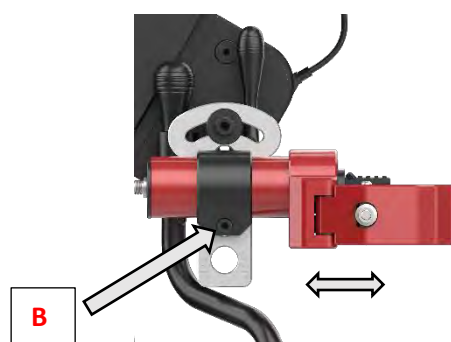

Figure 34. Depth adjustment of the Clamp mechanism in relation to the Device
**Attention!** The recommended Torque setting of this angle and depth adjustment Bolt B is 25 Nm (Newton Meters). See Figure 34 above.